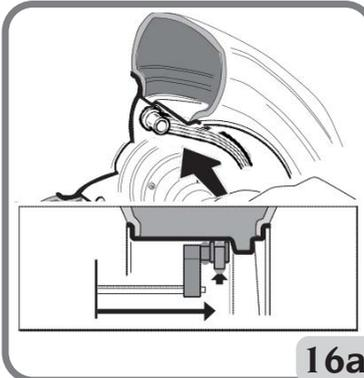

Fig. 16a: Manual acquisition of the distance of the external plane in the Program Types ALU 2P e ALU 1P
- move the end of the automatic measuring arm to the plane selected for applying the outer weight (Fig. 16a), following the same procedure described previously for the inner side.